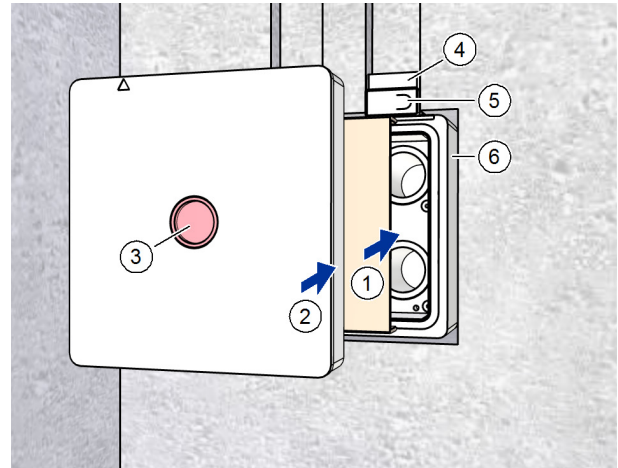

Fig. 13: Inserting the cardboard insert and protective cover
- ▶ Place the cardboard insert (item 1 in Fig. 13) in the wall box (item 6 in Fig. 13).
- ▶ Insert the protective cover (item 2 in Fig. 13) into the wall box (item 6 in Fig. 13) as far as it will go.
- ▶ Check that the red signal cover (item 3 in Fig. 13) is seated in the protective cover.
- ▶ Check that the protective cover (item 5 in Fig. 13) is seated in the 90° brackets (item 4 in Fig. 13).